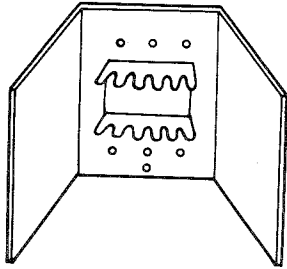

Figure 8— PC Board Retainer.
(2) Mounting the casing (see Figure 8)